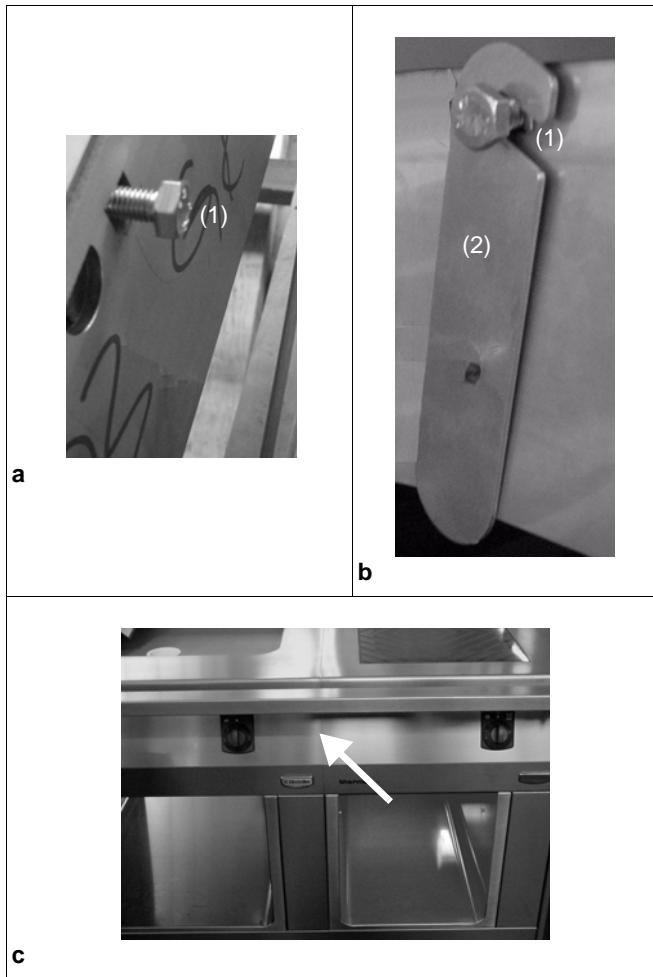
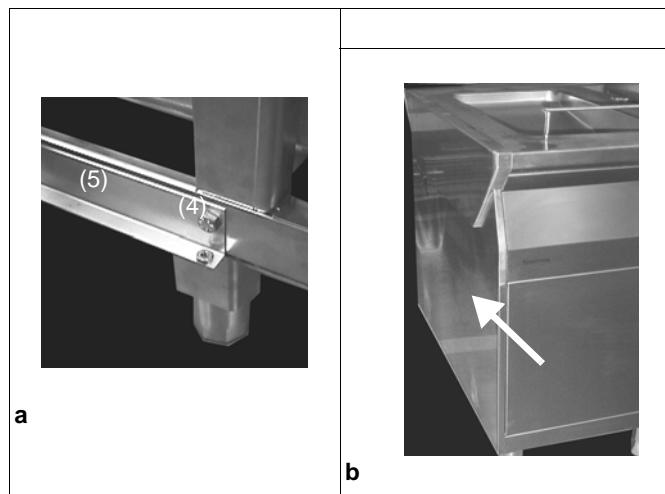

Fig.1 Lateral connection
Fig.2 Assemblage of sidewall
caged nuts (1 / Fig.1) pre-assembled on the right-hand side of the appliance, hexagonal screws M8x25 (1 / Fig.1) and mounting links (2 / Fig.1)
- ⇒ Keeping the screw (1 / Fig.1) loose, turn it until it is approximately 5 mm deep in the caged nut.
- ⇒ Fit the mounting link (2 / Fig.1) into the inside of the second appliance's left connecting plate.
hexagonal screws M8x25 (1 / Fig.1), bolts with retaining rings (2 / Fig.1), mounting links (3 / Fig.1), hexagonal screws M8x16 with serrated washers and hexagonal nuts M8, hexagonal screws M5 with serrated washers (4 / Fig.2)
and a fastening angle (5 / Fig.2).
- ⇒ (4 / Fig.2).